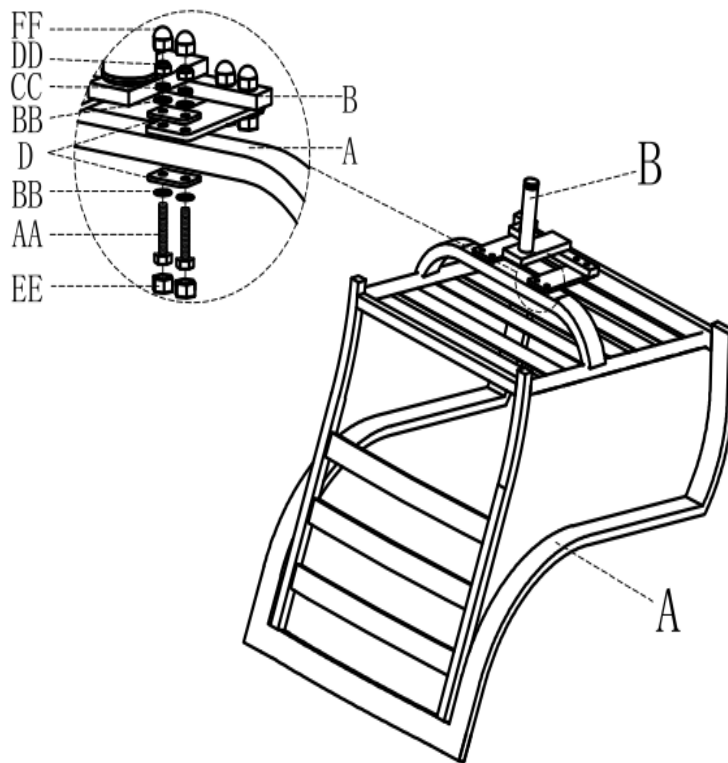

Figure 1
Step 1. Carefully place the chair frame (A) upside down on a non-abrasive surface. Assemble the T rocker(B) to the chair frame(A) with steel panel(D) and Bolts(AA) and Washer(BB) and M8 Spring gasket (CC) and M8 Nut(DD) by using open wrench(GG), then cover the bolts with bolt covers (EE and FF) as shown in Figure 1.